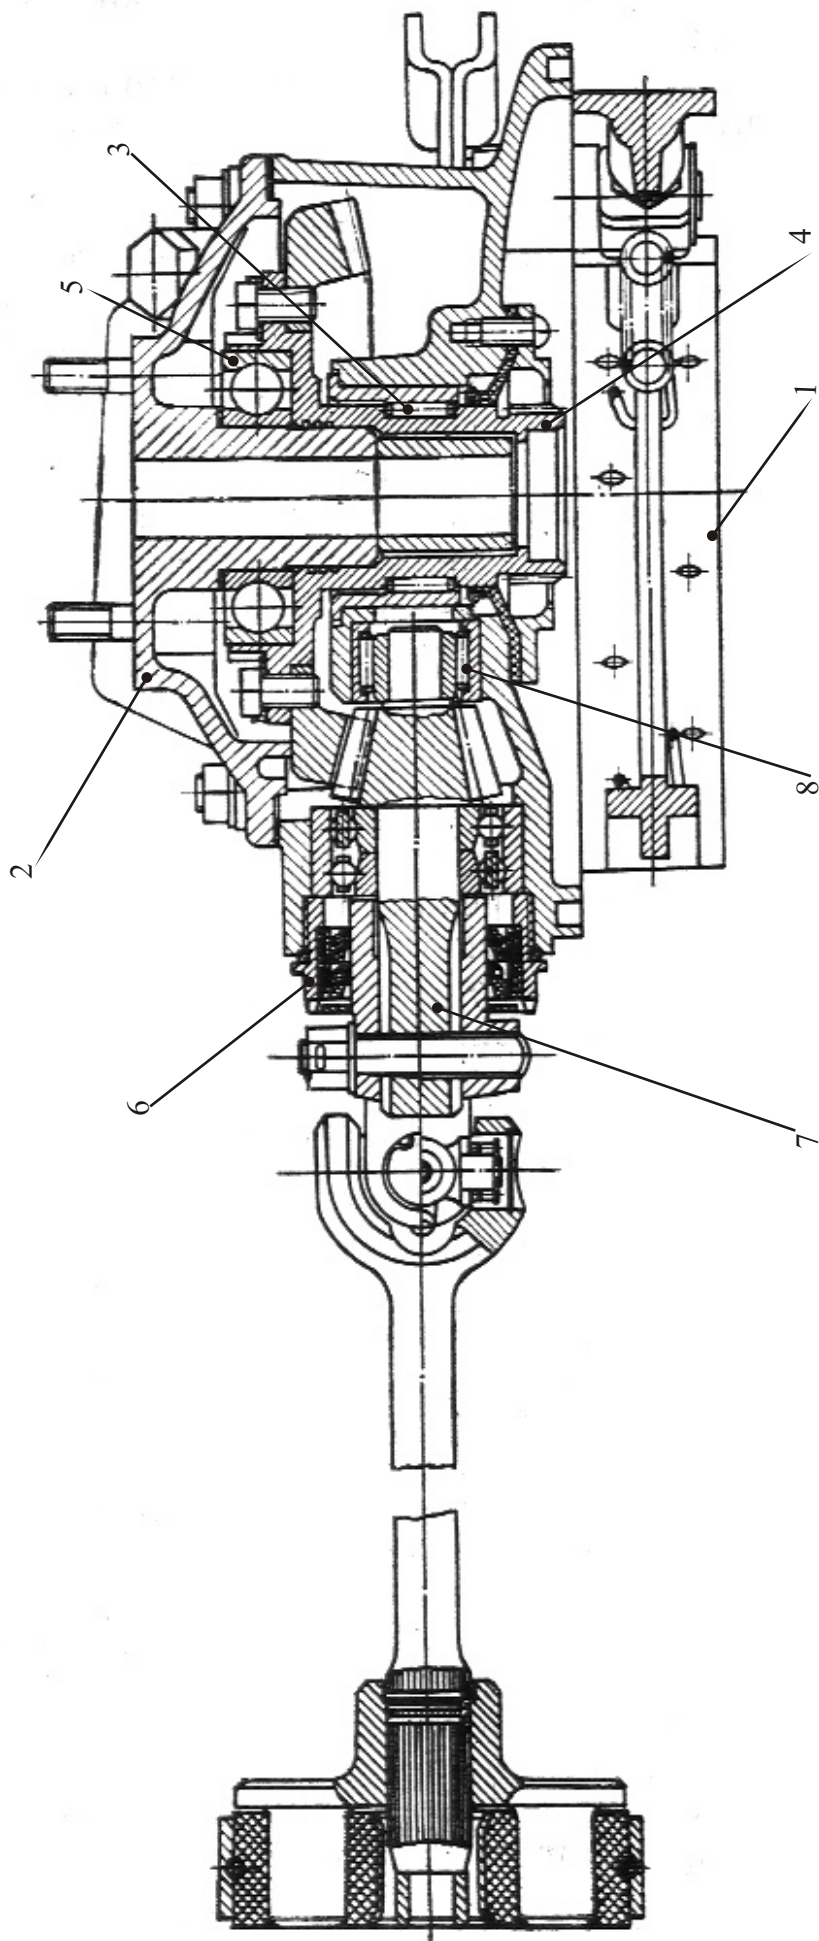

Fig. 66
To dismantle the final drive (Fig. 66):
- Remove the brake shoes (Fig. 66, Pos. 1);
- Unscrew the nuts fastening the casing cover, remove the washers and by slightly knocking against the end of the driven gear hub, remove the cover together with gasket and the driven bevel gear in assembly with the hub (Fig. 66, Pos. 2);
- Remove the rollers from the hub groove (45 pieces); (Fig.66, Pos.3)
- Remove the hub with the driven gear from the casing cover, inserting the rear wheel axle into the central hole until the hub rests against the distance bushing and holding the hub by hand, knock slightly against the axle end to press the cover from the bearing (Fig.66, Pos. 4)
- Press the ball bearing from the driven gear hub through the holes in the gear using a drift for the purpose. Unscrew the nut fastening the pinion gear bearing by turning it clockwise (left-hand thread) and remove the sealing ring; Take care to keep the bearing from cocking, when removing (Fig.66, Pos. 5);
- Unscrew the nut fastening the pinion gear bearing by turning it clockwise (left-hand thread) and remove the sealing ring (Fig.66, Pos. 6);
- Insert the wedge into the pinion gear shank slot, remove the pinion gear together with the radial-thrust ball bearing, remove the packing and the shim (Fig.66, Pos.7);
- Take the needles out of the bearing on the pinion shank (Fig. 66, Pos. 8).